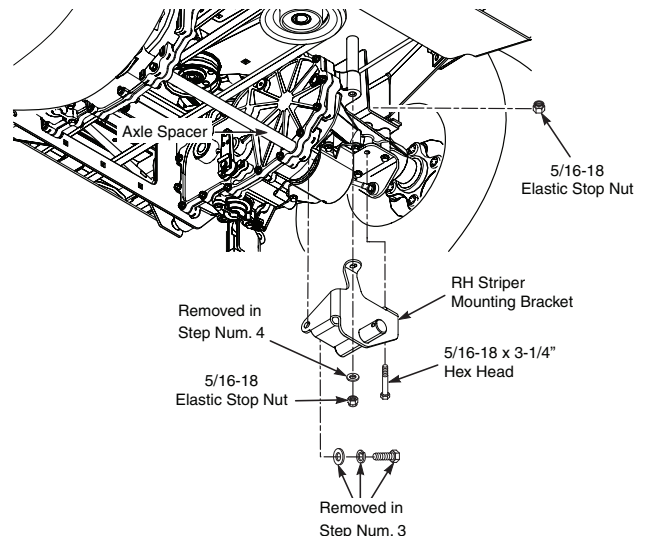

Figure 2-2. Install RH Striper Mounting Bracket
4. Install the RH Striper Mounting Bracket as shown in Figure 2-2. Refer to the illustrated parts list following the assembly instructions in this manual to identify the 5/16-18 hex head bolts required. Secure the bracket to the machine with two (2) 5/16-18 hex head bolts and two (2) 5/16-18 elastic stop nuts included with this kit along with the 5/16" flatwasher removed in step number 3. Do not tighten hardware at this time.
5. Secure the axle spacer to the transaxle assembly and striper mounting bracket by reinstalling the 3/8-16 x 2-1/4" hex head bolt, 3/8" lockwasher and 3/8" flatwasher that were removed in step number 2. Torque this bolt to 39 ft. lbs. See Figure 2-2.